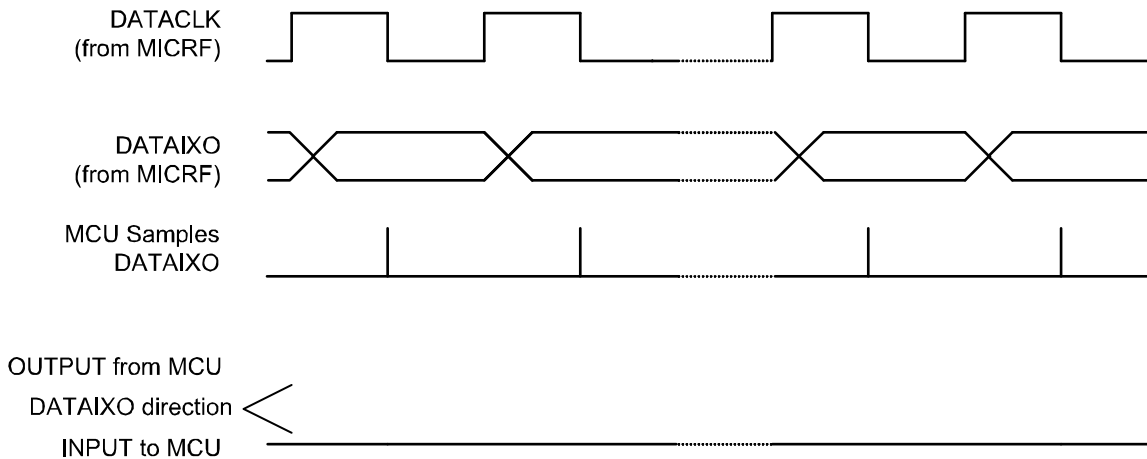

Figure 3. Data Interface in Receive Mode.
- Receive-mode (see Figure 3) is selected by setting the “Mode” field in the control word to “Receive” (binary “10”).
- Figure 3 shows how bits are received. In this figure, the DATAIXO line is sampled (by the MCU) at negative edges of the DATACLK-pulses provided by the MICRF transceiver.